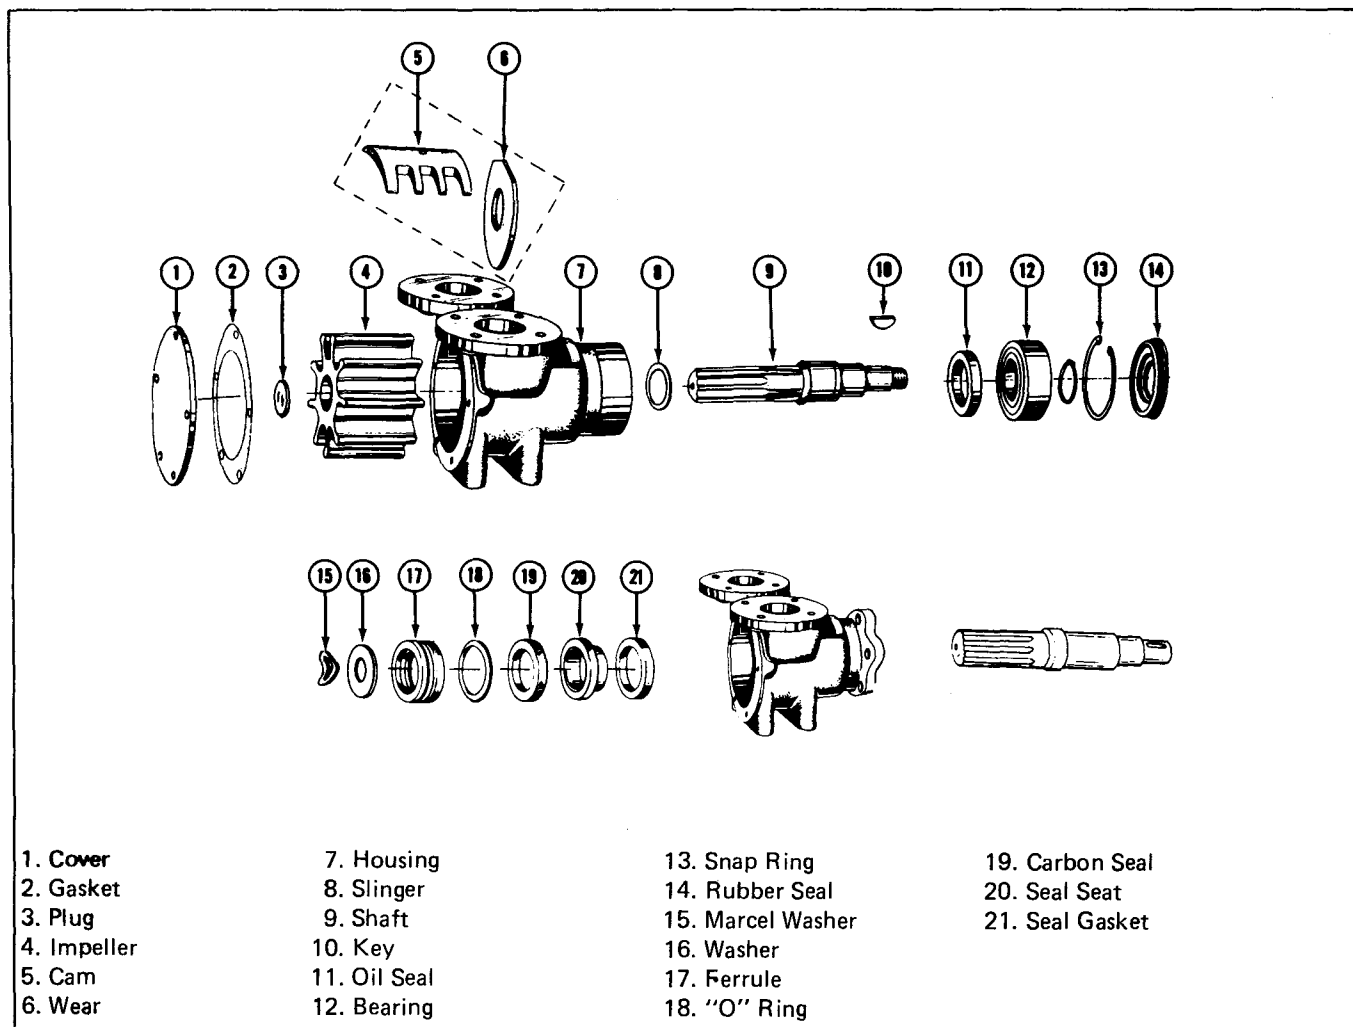

Fig. 8-28, (N10806). Raw (sea) water pump – exploded view
1. Remove raw water pump drive gear or pulley with 3375257 Puller. Remove shaft key (10, Fig. 8-28).
2. Remove snap ring. If belt-driven, rubber seal (14) must be removed before removing snap ring.
3. Remove end cover (1) and gasket (2), rubber plug (3) and rubber impeller (4). If pump is to be reinstalled in same position as removed, note direction of impeller blades to be sure it is reassembled correctly. Fig's. 8-29 and 8-30.
4. Press shaft (9) from pump body and remove slinger.